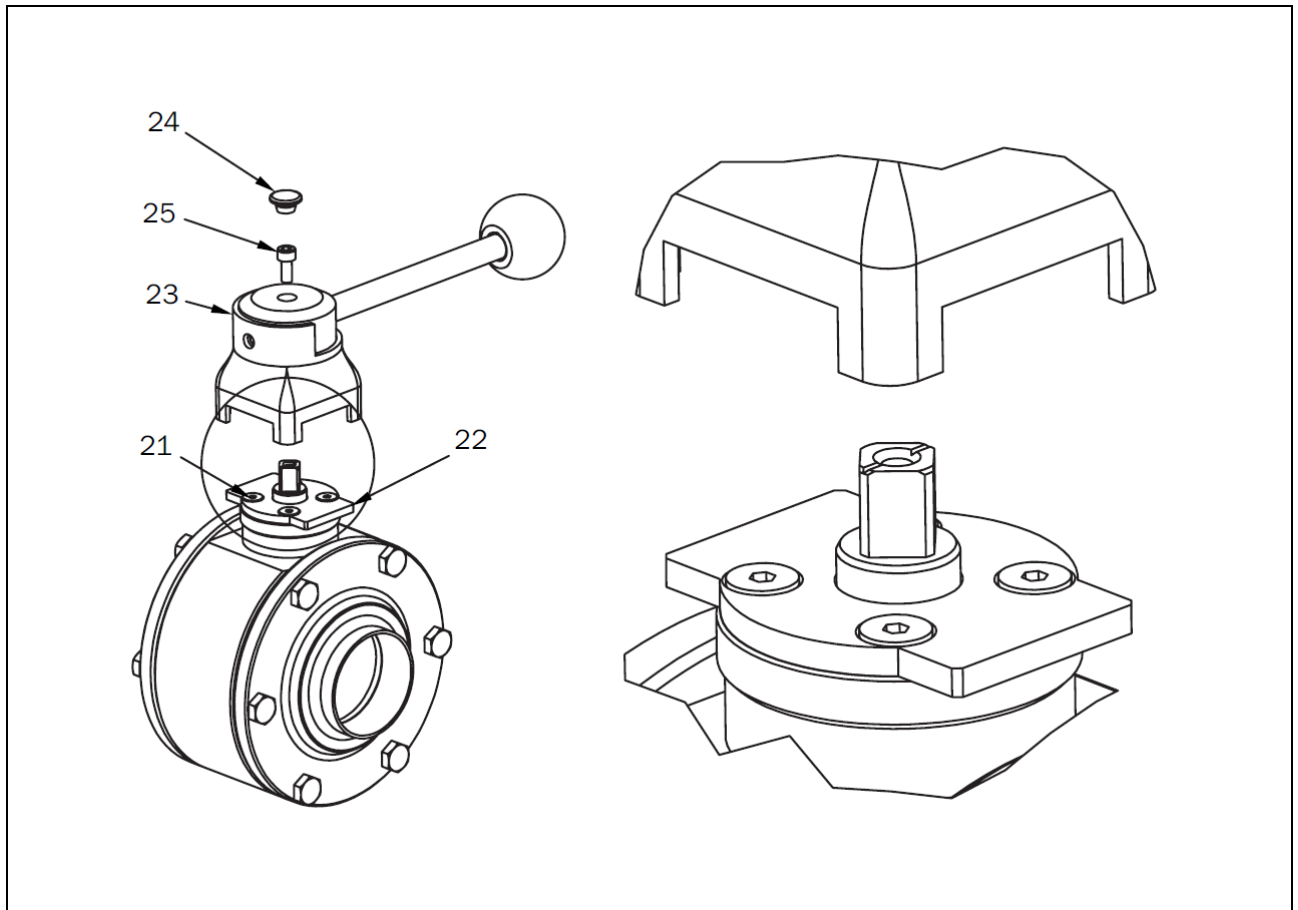

Fig. 6-2: Removal/installation of the handle
- Remove the blind plug (Fig. 6-2, item 24).
- Unscrew the socket-head screw (Fig. 6-2, item 25).
- Pull off the handle in the direction of the axis (Fig. 6-2, item 23).
- Unscrew the bolt group (Fig. 6-2, item 21).
- Remove the locking plate. (Fig. 6-2, item 22).